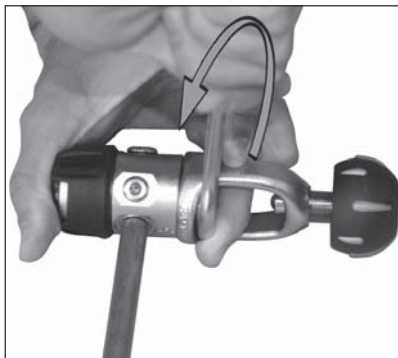

FIG. 8
8. Using the special 25-mm wrench (B-1), unscrew the Yoke retainer nut. (Fig. 8)